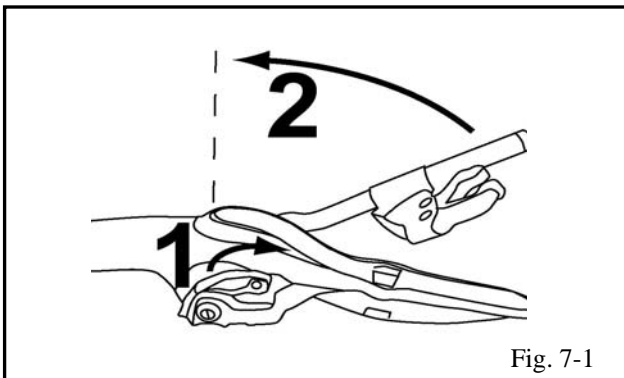

Fig. 7-1
- (a) Open the levers close to the tube and fold the tube up to vertical position. (Fig. 7-1)